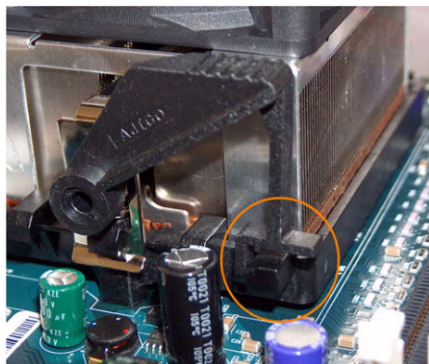

Figure 18. Cam Lever in Installed Position
20. Ensure the cam lever is fully rotated to the installed position. (See Figure 18.)